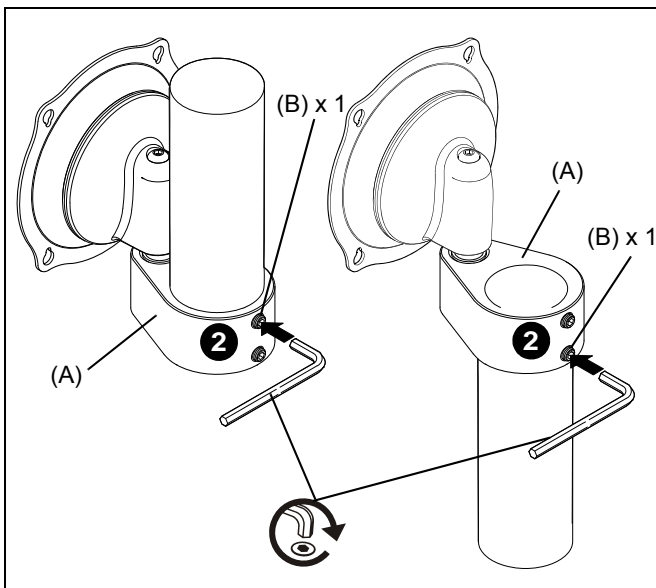

Figure 2
3. When mount (A) is properly positioned secure mount (A) to 1-1/2" NPT pipe by installing and tightening 5/16-18 x 3/8" set screw (B) using 3/16" hex wrench. (See Figure 2)
**NOTE:** If mount is being used to couple two pipes, use both set screws when securing mount (A) to pipes.